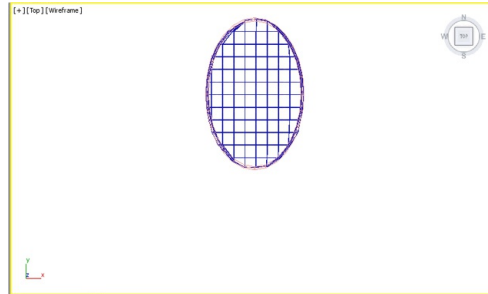

Figure 12-80 *The racket head in the Top viewport*
1. Choose the **Zoom** tool and zoom in the Top viewport to get sufficient room for creating the shaft of the racket, as shown in Figure 12-80.